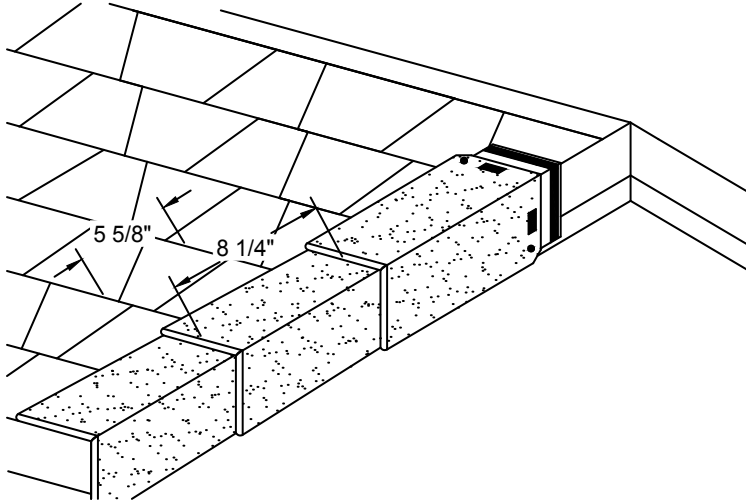

Figure 27 - Installation of EZ-Ridge™ Shingles on Rake Edges of the Roof
3. Note: Installation with exposed nails may affect the aesthetic appeal of EZ-Ridge™ shingles. **(See Figure 27)**